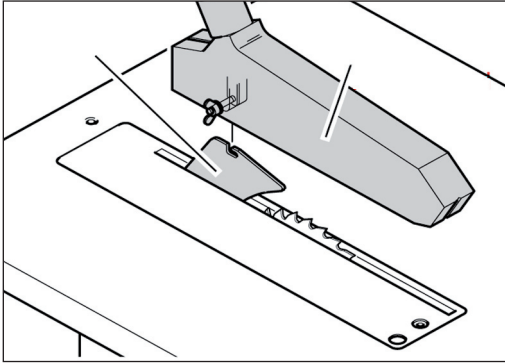

Fig 1.
1. The riving knife should be mounted/adjusted correctly to prevent the stock from kicking back when cutting. Fig 1.